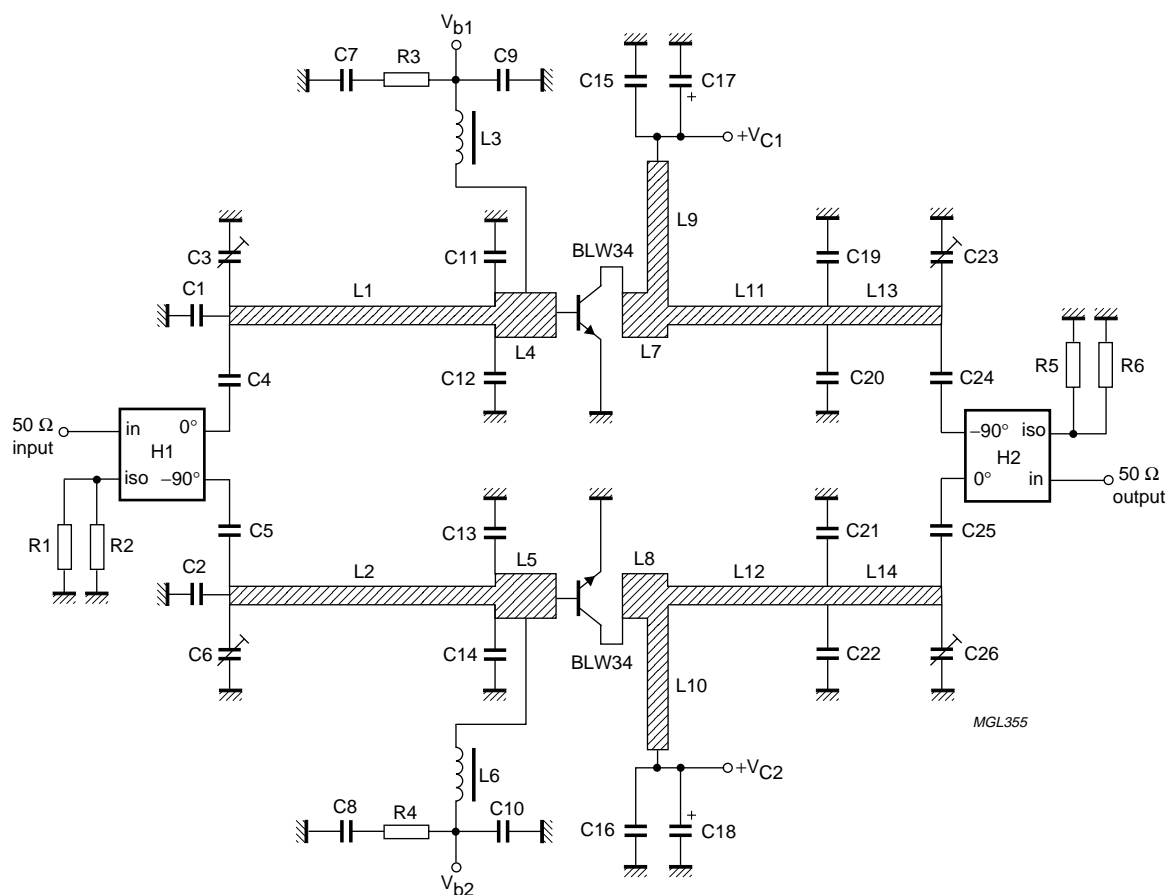
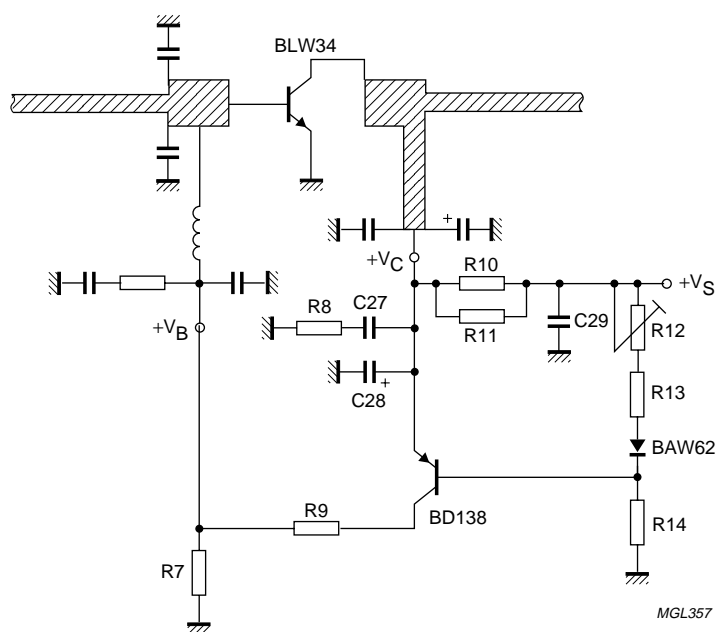

Fig.4
Fig.5
Figure 4 shows the circuit diagram of the complete $2 \times$ BLW34 class A amplifier. The biasing circuit is drawn in Fig.5.
- The calculated value for the chip capacitors $C_{11} = C_{12} = C_{13} = C_{14}$ in Fig.4 was 10 pF. In practice 8.2 pF appeared to be a better choice.